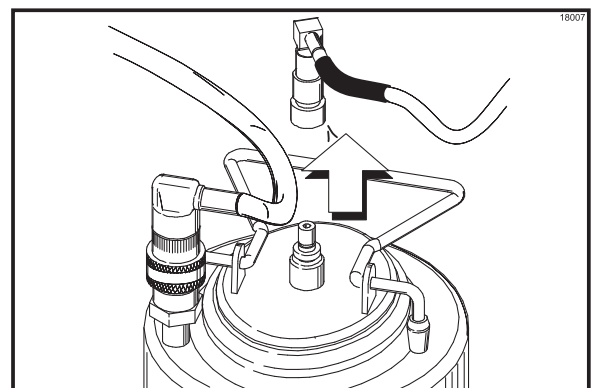

Figure 61
**Filling the syrup tanks:** Pull back on the collar of the quick disconnect fitting for the air line. Allow the air pressure to escape from the syrup tank. (See Figure 61.)